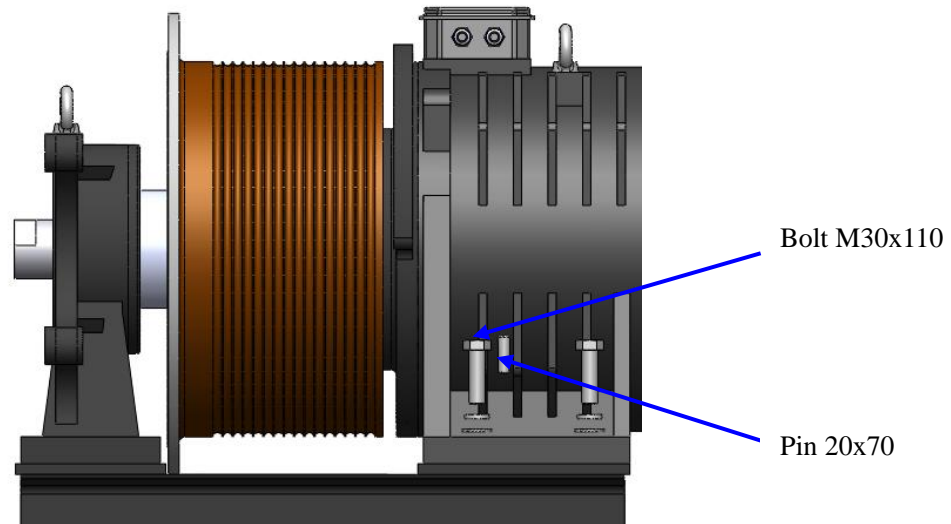

Figure 92: Install bolts and pins
12. Tighten the bolt M30x110 (4 pieces) with lock washer 30 and flat washer 30 with open end wrench (46mm). See Figure 92.
13. Install the pins 20x70 (2) until snug.